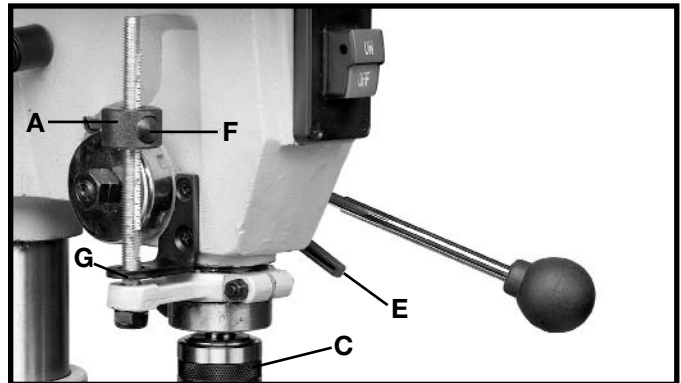

Fig. 25
Where a number of holes are to be drilled to exactly the same depth, the stop nut (A) Fig. 25, on the threaded stop rod (B) is used as follows:
2. Lower the chuck (C) Fig. 25, to the depth you wish the holes to be drilled. Then lock the quill in position by tightening quill locking lever (E). **NOTE:** Quill locking lever (E) is spring-loaded and can be repositioned by pulling out on the handle and repositioning the hub of the handle on the bolt located underneath the hub.
3. Depress spring-loaded button (F) Fig. 25, and rapidly move stop nut (A) until bottom of nut (A) contacts stop (G). Then hold the pinion shaft handle and loosen quill locking lever (E), the chuck and quill will return to the up position by gradually allowing the pinon shaft handles to rotate to the return position.
5. Drill a test hole to check the depth and readjust if necessary by rotating stop nut (A) Fig. 25, for fine adjustment. It is not necessary to depress button (F) while rotating stop nut (A) for fine adjustment.